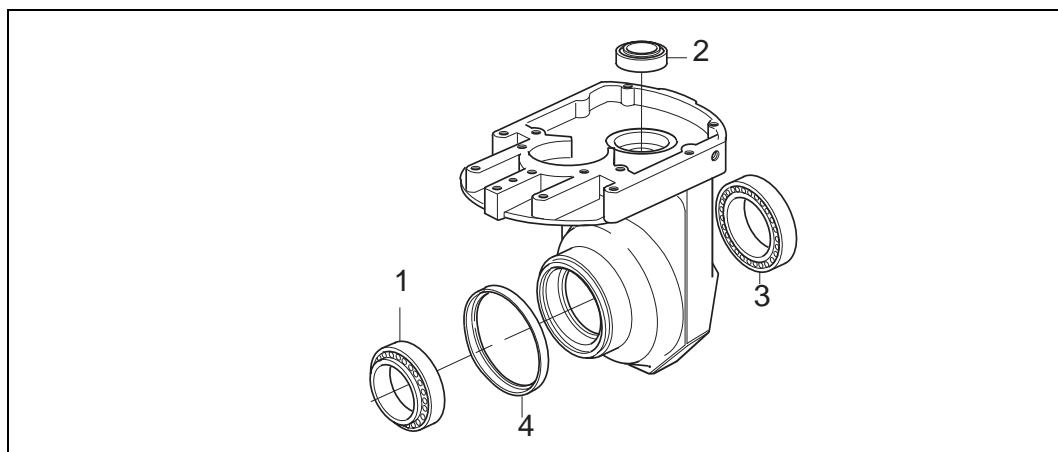

Figure 5.2 Preparations for gearbox housing
1. Preparation of the gearbox housing (see figure 5.2)